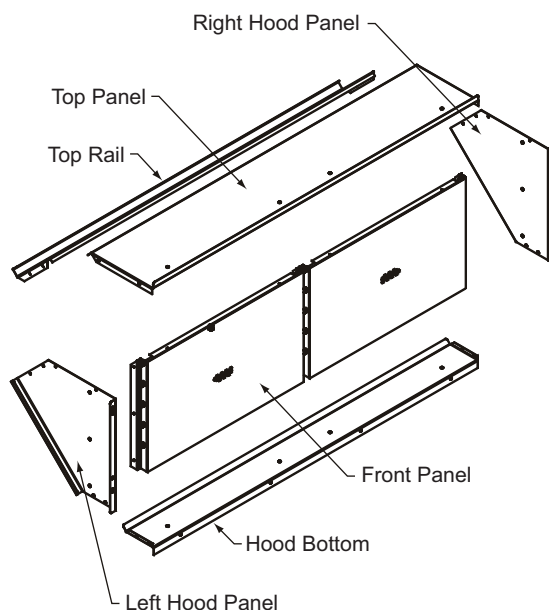

Fig. 34 — Assemble Barometric Relief Hood
4. To assemble the barometric relief hood, the following will be needed. See Fig. 34.